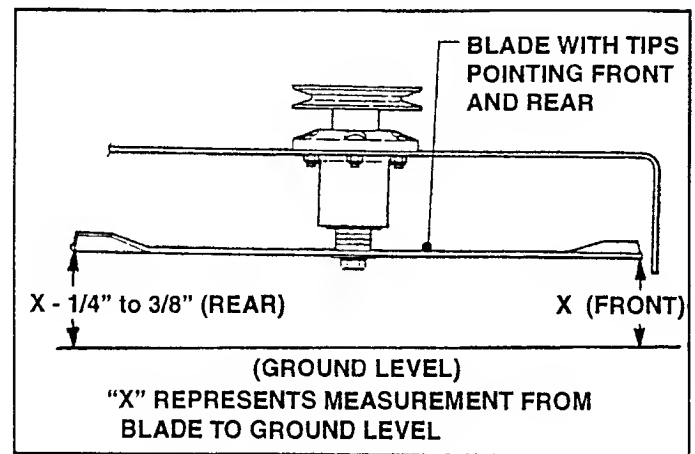

FIGURE 8.9
- Check Blade Tips by rotating outside blades until tips are pointing to front and rear of deck. Check measurement of Blade Tips to ground on both Blades. Front to rear measurement should be $\frac{1}{4}$ " to $\frac{3}{8}$ " higher in the rear. See Figure 8.9.